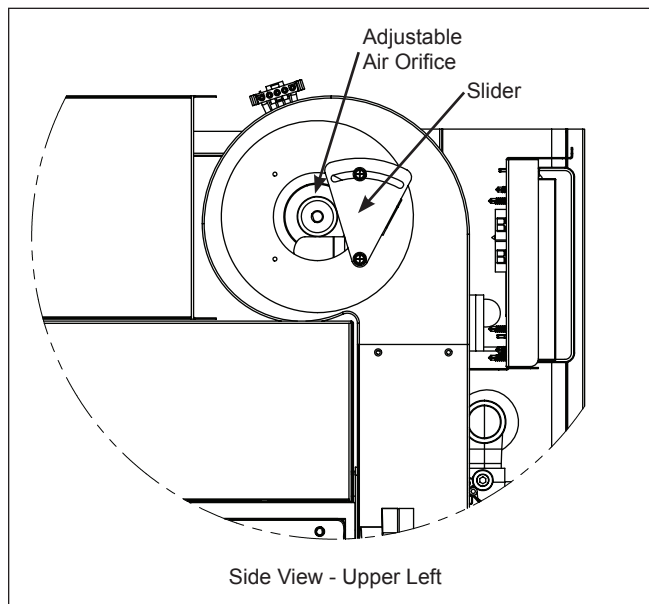
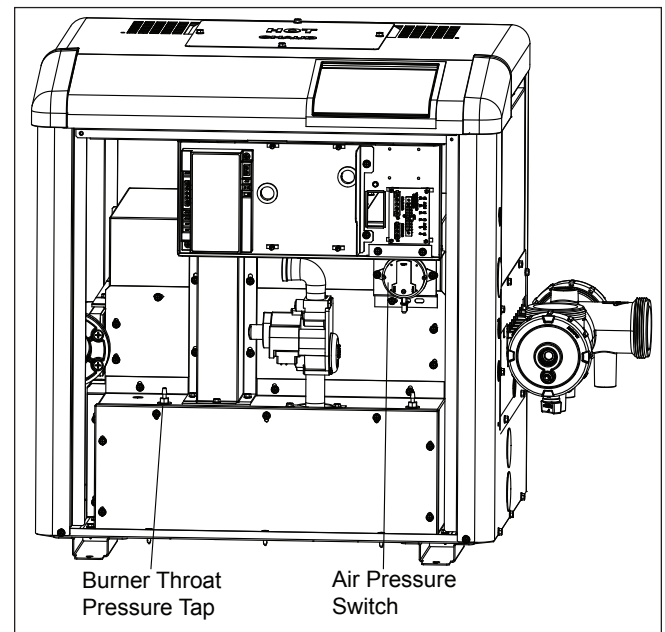

Figure 35. Adjustable Air Orifice Location
Figure 36. Air Pressure Switch and Burner Throat Pressure Tap Location
The burner throat pressure should be adjusted using the air orifice on the intake of the fan. This air orifice has a slider attached to it. (See Figure 35.) This slider is used to increase or decrease air pressure. The air pressure will drop as more of the slider covers the air orifice. The air pressure will increase as more of the air orifice is exposed. The pressure should be adjusted to 1.0" W.C. To measure the air pressure locate the burner throat pressure tap. (See Figure 36). Remove the plug covering the tap and measure the pressure.
Set the voltmeter to measure AC voltage. Attach the black lead of the voltmeter to the terminal on the secondary side of the transformer with a yellow wire attached to it (common). This is test point 1 on Figure 35. Touch the free lead of the voltmeter to the terminal on the secondary side of the transformer with a red wire attached to it (24V tap), test point 2. The voltmeter should read between 20-28 Volts AC.
Start by checking the voltage at the two (2) legs of this circuit on the controller. (See test points 4 and 5 in Figure 35. Check the voltage at test point 4, where the violet wire from the pressure switch enters the two-pin connector on the controller.